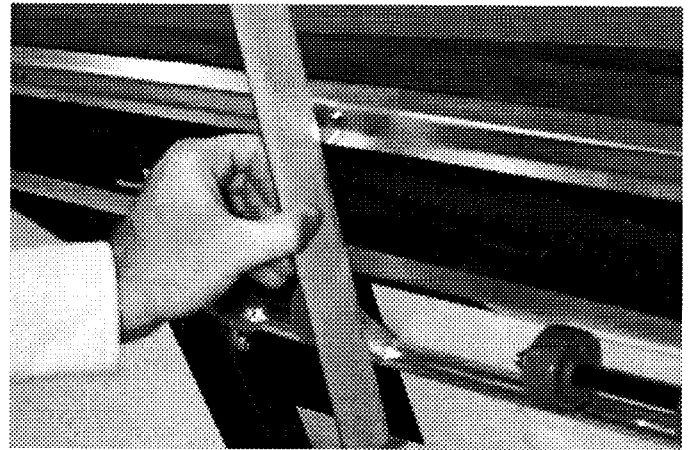

FIG. 11
2. Inspect carpet brush for wear by position a straight edge across shoe. If bristle extension is 1/8" or less, adjust brush. *(Figure 11)*